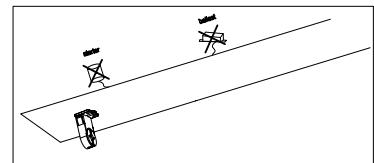

Figure 2
**STEP 2:** Bypass the ballast. See Figure 2.